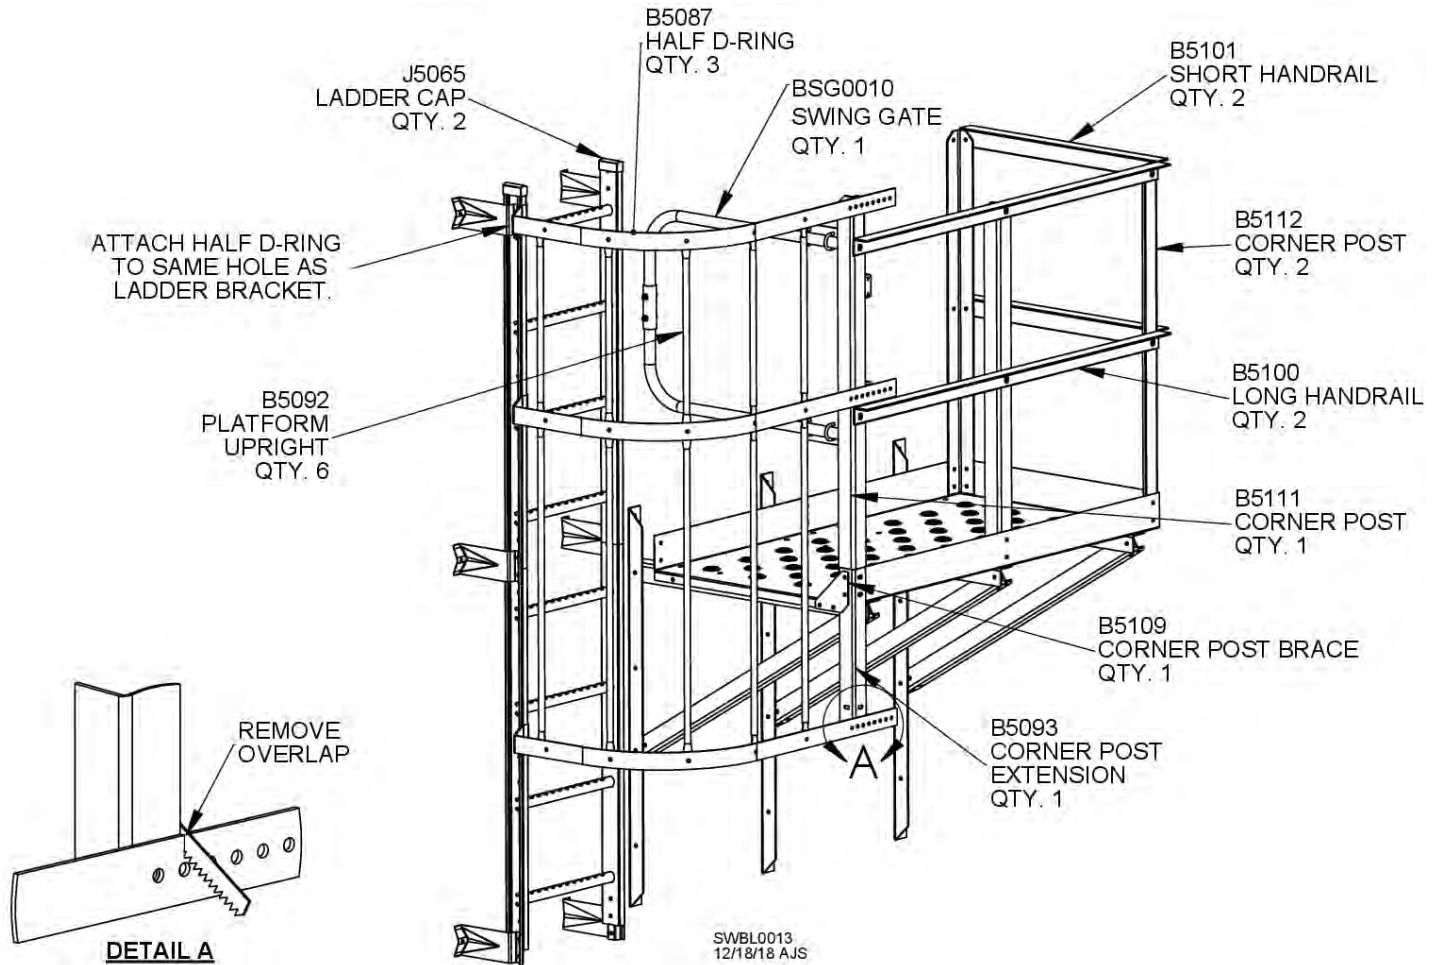
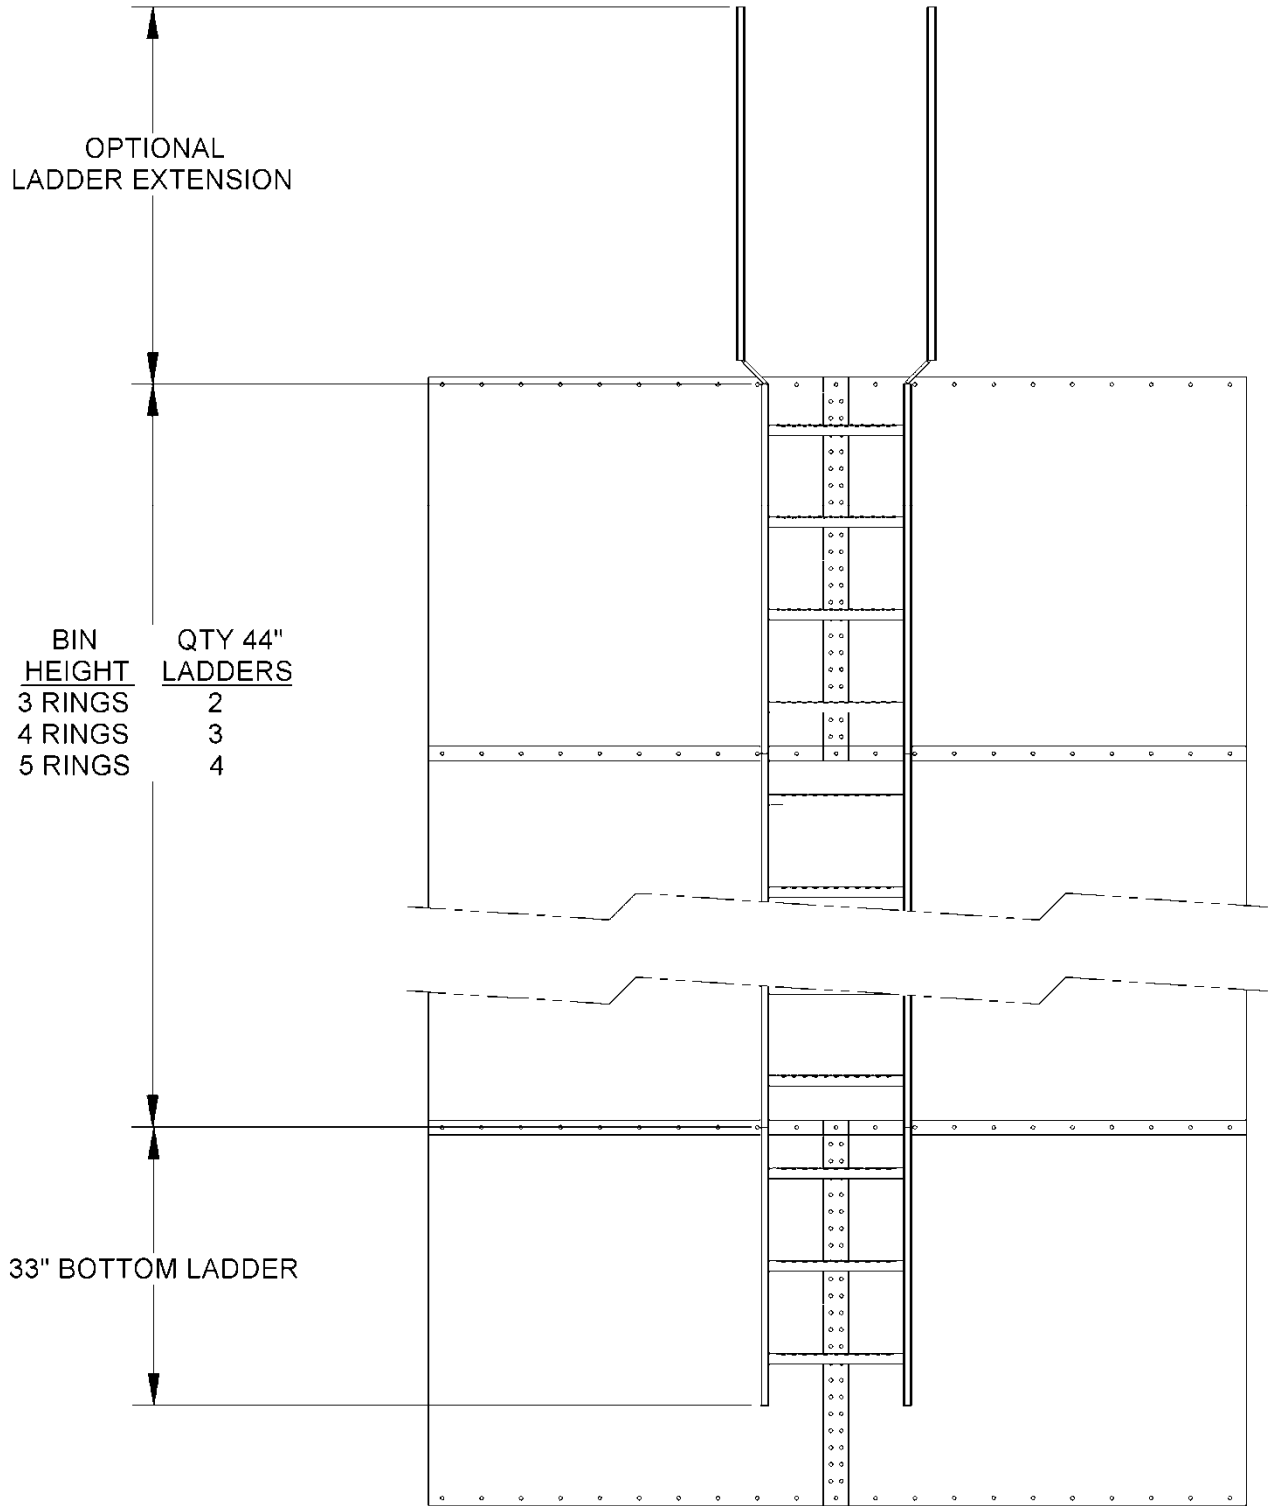

**Fig. 29**
**Fig. 30**
Fig. 29 shows where flared D-ring should be attached in relation to 54" landing platform on a stiffened bin. Flared D-ring should be two (2) sidewall rings above platform. **Platform must be attached to sidewall in 1st position.** This will ensure that OSHA standards are met, as well as ease erection of ladder and cages. Two ladders attach to sidewall on same ring at platform location. At top and bottom of each ladder assembly, sidewall brackets need to be moved either up or down 4" to avoid interference with roof sheets, platform brackets, concrete and ladder caps.
To ensure that additional ladder columns will be centered between two stiffeners, attach platform to sidewall as shown in Fig. 29. Top ladder column should have already been centered between two stiffeners.
Attach 54" landing platform to sidewall under upper ladder as shown in Fig. 29. Attach 44" ladder section to sidewall ring above platform, centered between two stiffeners. Fasten corner post extension, B5093, to bottom of open-faced corner post B5111 as shown in Fig. 30. Note that corner post B5111 is slightly longer than B5112 posts. Placement is critical.
Attach half D-rings to inside of ladder siderail and fasten them to corner post B5111 and corner post extension, B5093. Connect safety cage uprights to half D-rings with 3/8" hardware and tighten. Slide ladder caps over siderails of top ladder section. See Fig. 30. Also, remove half D-ring overlaps as shown in Detail A to ensure smooth, snag-free edges.